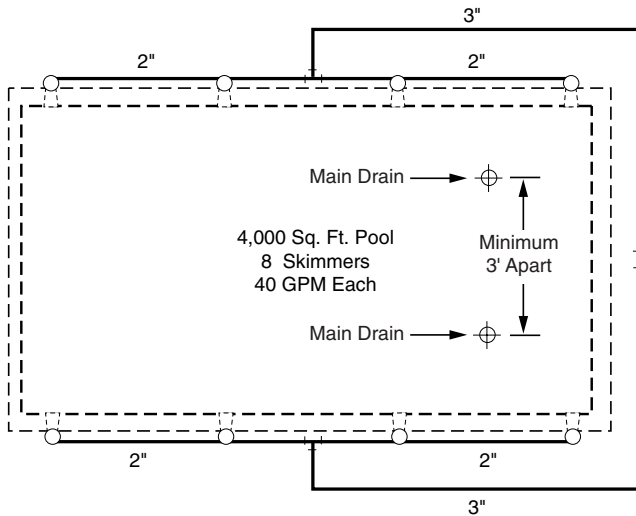

**Figure 5: Typical residential installation with float valve. Use with at least two main drains.**
**Vacuumping pool (Figure 5):** Remove cover, basket (and float valve and check valve if skimmer has them). Plug equalizer inlet. Replace basket and place vacuum plate on top of basket. Fill the vacuum hose with water, bring it in over coping or through skimmer throat, and attach the vacuum hose directly to the vacuum plate. Follow instructions in vacuum attachment or filter owner's manual for vacuuming operation. After vacuuming, remove hose and vacuum plate, unplug equalizer port, and reinstall check valve, float, basket, and cover. Be sure cover is solidly in the frame to prevent accidentally dislodging it. Fasten cover with screws provided if children use pool.
3. See Figures 5 and 7, Pages 2 and 3, for piping layout. See Chart I, Page 3, for suction pipe sizing.